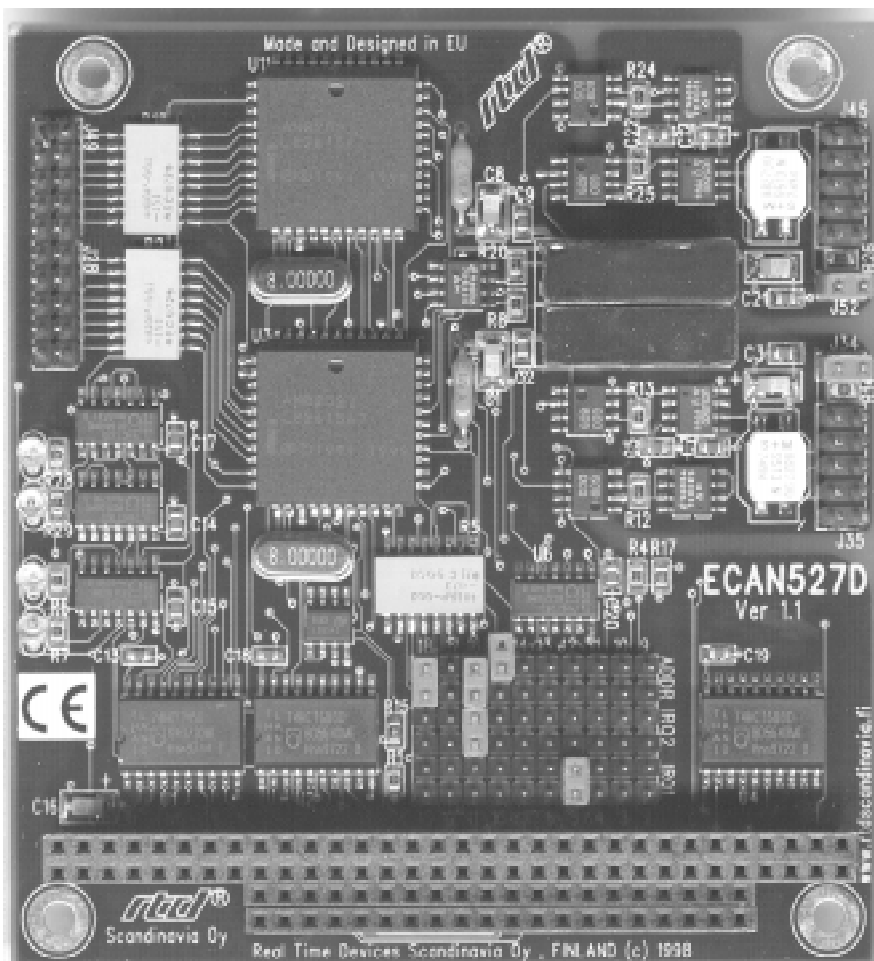

Figure 2-1: ECAN527DHR Board layout showing jumper locations
- Fig. 2-1: Board layout showing jumper locations
Table 2-1 below illustrates the factory jumper setting for the ECAN527DHR. Figure 2-1 shows the board layout of the ECAN527DHR and the locations of the jumpers. The following paragraphs explain how to change the factory jumper settings to suit your specific application.
Table 2-1: Factory configured jumper settings (Please refer to figure 2-1 below for detailed locations)